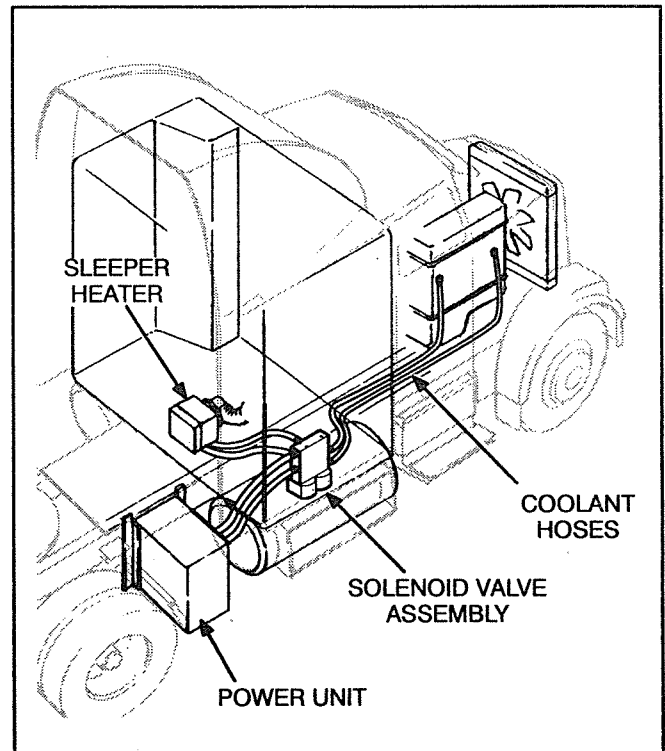

FIGURE 8-1. COOLANT SYSTEM COMPONENTS (STANDARD CAB CONFIGURATION SHOWN)
Install the solenoid valve assembly before starting the hose connections. Figure 8-1 illustrates a typical heating system.
1. The solenoid valve assembly mounts beneath the sleeper (Figure 8-1). Select a location that allows access for coolant hose routing to the power unit, sleeper heater and main truck engine. Also consider access to install the mounting fasteners for the solenoid valve assembly.
1. Find a suitable mounting location on the truck chassis between the power unit and the main truck engine (Figure 8-1). Select a location that allows good access for coolant hose routing. Avoid areas where hoses could contact sharp, abrasive, or hot surfaces. A location closer to the main truck engine will reduce hose lengths.